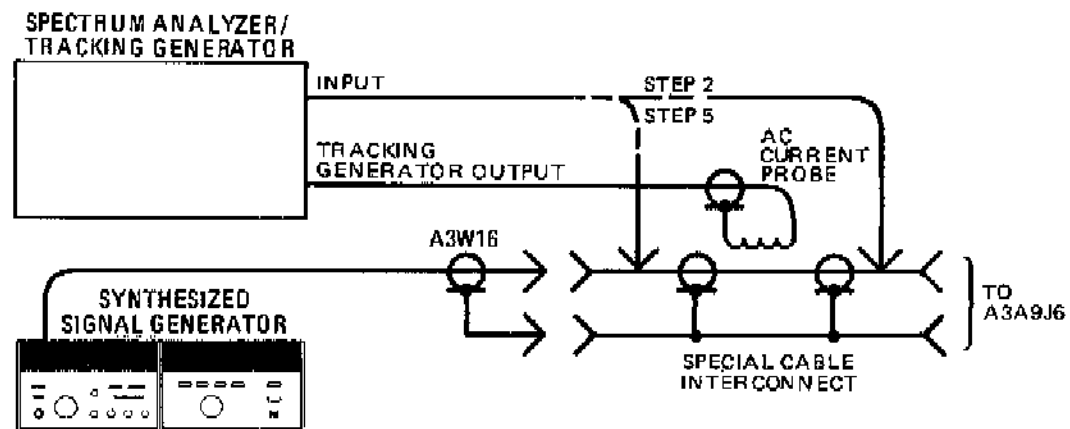

Figure 5-8. YTO Loop Phase Detector Adjustment Test Setup
2. Connect the equipment as shown in Figure 5-8. The special interconnect cable is inserted between A3W16 (gray cable) and A3A9J6 (YTO Tune 1).
6. Press the single sweep pushbutton. Check that the gain-crossover frequency is 20 ± 2 kHz. If the gain-crossover frequency is not correct, A3A9A4R20 must be changed to set the correct frequency. Refer to Figure 5-8.